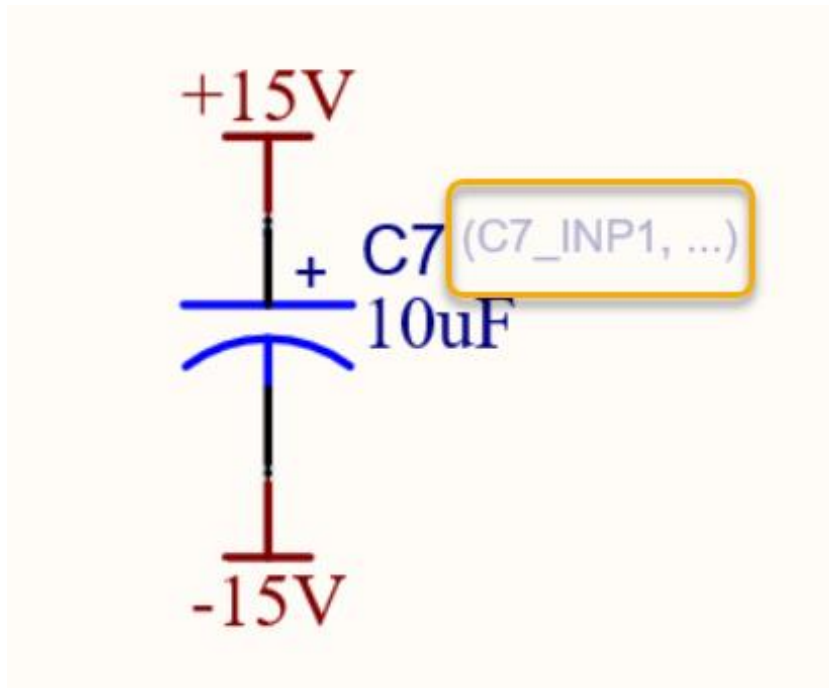

Figure 1. Physical Channel Index lined designator
- Open schematic `Input_channel.SchDoc` in the project. Next, zoom to one of the components to observe the Designators, notice they are linked to the Channel Index, as shown in Figure 1. In this exercise we will change these to Global Index, so they are all numbered sequentially.